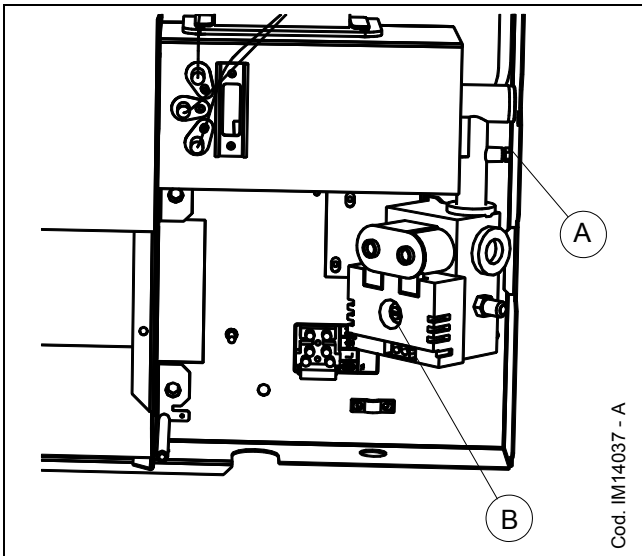
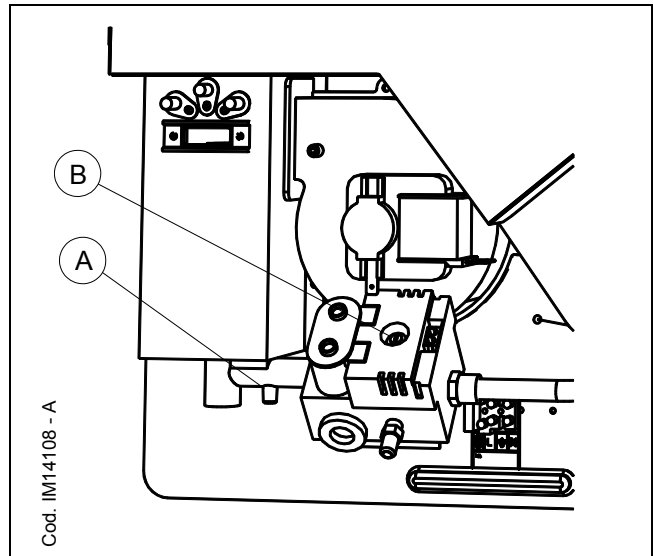
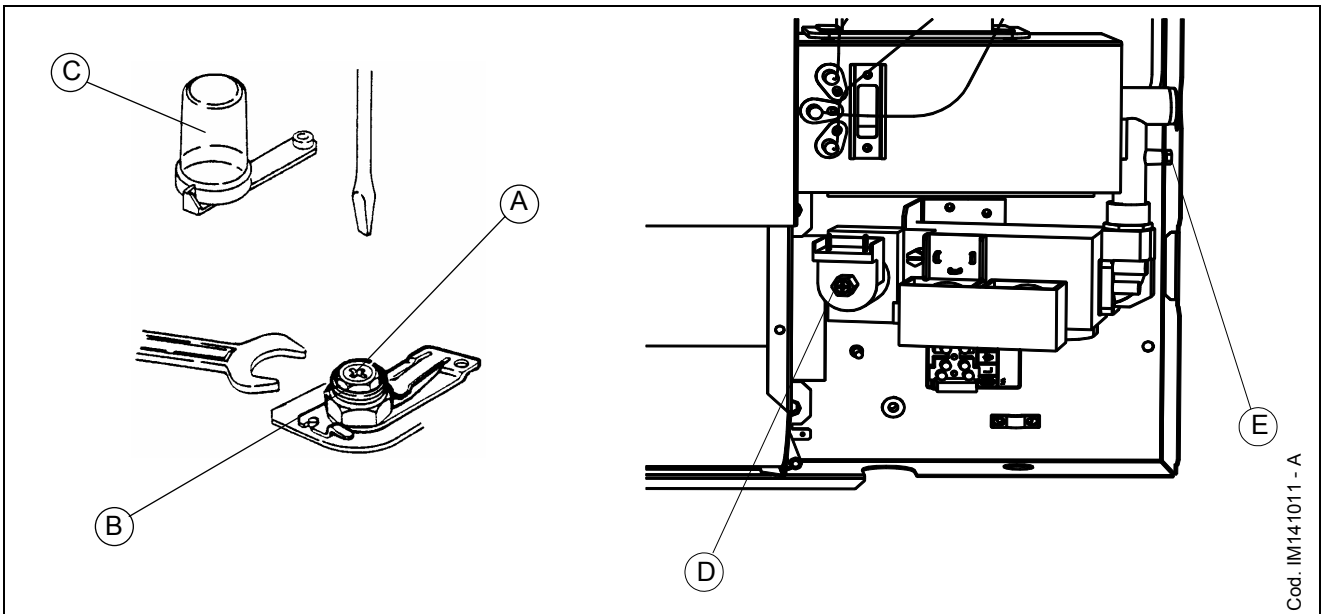

Figure 25 – VALVE MANIFOLD MODELS 4001, 4002, 5001 AND 8001
Figure 26 – VALVE MANIFOLD MODELS 3001 AND 3002
Figure 27 - VALVE MANIFOLD MODELS 5002 AND 8002
1. Remove the sealing screw, connect a pressure gauge in A (see Figure 25 or Figure 26).
4. Regulate the feeding pressure to the burner at the requested value (see Table 1 and Table 2) by means of a B regulator (see Figure 25 and Figure 26) placed under its protection plug. Proceed clockwise to increase pressure and in the opposite way to decrease it.
2. Take off the plastic cover of the gas valve (see Figure 27).
3. Connect a pressure gauge in position E (see Figure 27).
5. Regulate the pressure to the burner using B screw (see Figure 27) up to 9 mbar (for 5002 model) and up to 7,1 mbar (for 8002 model). Move clockwise to increase the pressure values and in the opposite way to decrease them (use a setscrew wrench no. 10).
4. The maximum operating pressure only depend on the distribution network pressure level which needs to be adequately regulated at 30 mbar (for G30 gas) or at 37 mbar (for G31 gas) by means of external stabilizers not connected to the unit. Therefore, the pressure regulator B (see Figure 25 or Figure 26) is not to be considered. If the desired setting can not be reached, try with the second stage regulator.
5. Disconnect the pressure regulator tightening completely screw B (see Figure 27). In this way the pressure to the burner is directly depending on the distribution network pressure level. Make sure it is properly regulated at 30 mbar (for G30 gas) or at 37 mbar (for G31 gas). The network pressure level can be reduced by using a special first stage pressure reducers placed close to the liquid propane tank (for reduction down to 1,5 ate). While a second stage reducer is needed for further decrease to 0,03 or 0,037 ate. This second reducer should be located close to the unit but always outside the building.
4. Safely tighten the pressure regulator "B" (see Figure 25, Figure 26 or Figure 27).